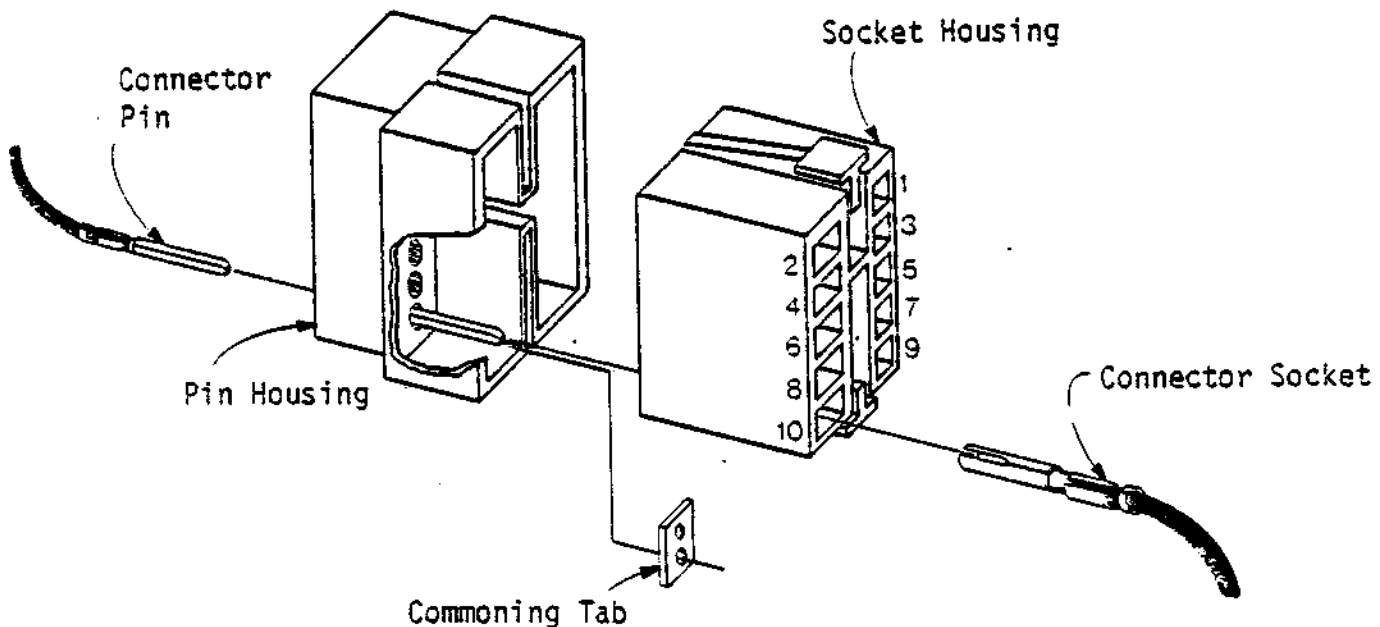

Figure 5-49B. Pin and Socket Housing Assembly
3. Insert the pins and sockets into their respective housings as shown in Figure 5-49B.